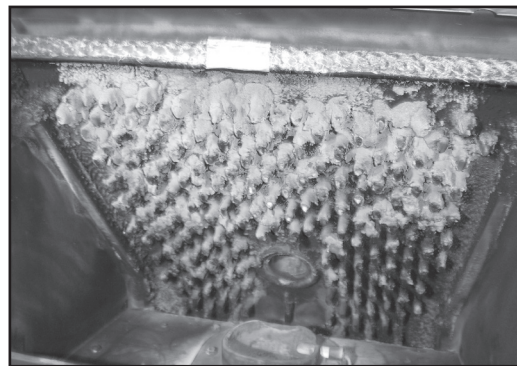

Figure 17.2 - Example of a dirty heat exchanger
- It is necessary to remove the baffle to gain access to the heat exchanger (figure 17.2). Follow instructions for baffle removal on **page 20, figure 20.2**.
- Use the crevice tool to finish cleaning the heat exchanger fins. It is critical that the 2 exhaust exits at the back of the firebox floor (left and right) be thoroughly cleaned. **Figure 17.2** There are several ways this can be done: